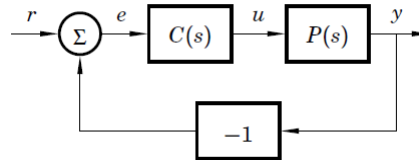
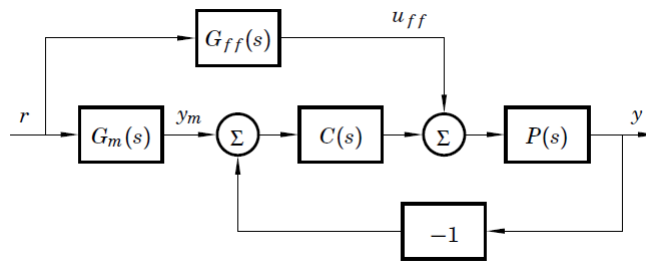

Figure 1 The old structure in Problem 1.
Figure 2 The new structure in Problem 1.
1. You are working at a company designing controllers. As you have taken the real-time systems course at LTH you are brave enough to suggest to your employer that you should change the SISO controller structure from Figure 1 to Figure 2.